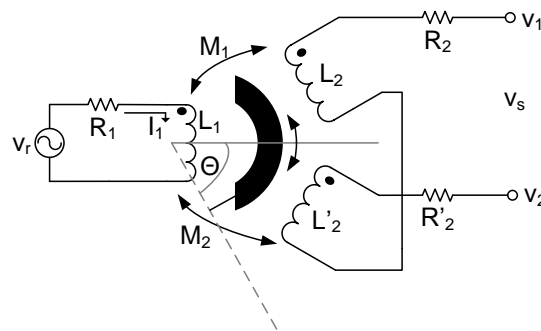
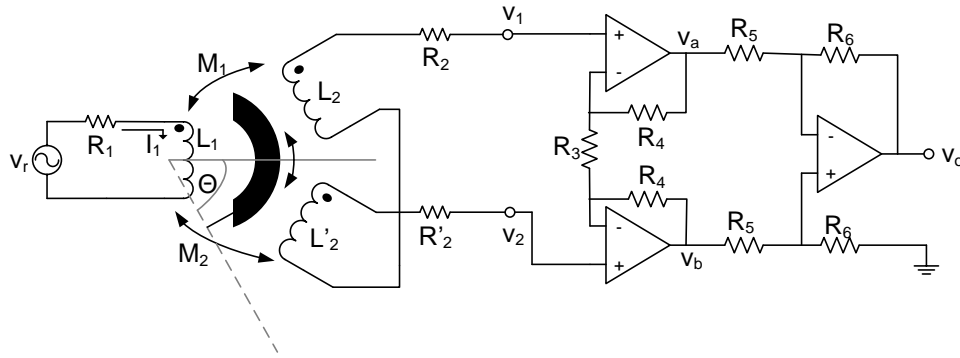

Figure 5: Measuring an angle using an RVDT.
Figure 6: RVDT with instrumentation amplifier.
ESP assists a driver to keep a vehicle on the road during dangerous driving conditions. For this purpose, the ESP system uses a large number of sensors in the vehicle. One of these sensors measures the angle of the steering-wheel and steering-column and the speed with which the driver changes this angle (note that one sensor measures both quantities). The RVDT (rotary variable differential transducer) from Figure 5 can be used to measure the angle (and its rate of change). When the driver moves the steer from the central position ( $\Theta = 0^\circ$ ) to the left or to the right, then this will lead to a change in the output voltage of the sensor. This electrical signal can then be sent to the ESP computer. The primary winding of this RVDT is connected to a voltage supply that produces a sinusoidal voltage with an amplitude of 5V with a frequency of 10 Hz. The RVDT has a sensitivity  $S$  of  $100 \mu\text{V}/(^\circ/\text{V})$ . The output voltage of the RVDT is equal to:
- (5p) (d) The signal coming from the RVDT is too weak to be directly send to the ESP computer. The signal should first be amplified. For this purpose, the sensor from Figure 5 is connected to an instrumentation amplifier. The resulting circuit is shown in Figure 6. The instrumentation amplifier uses three operational amplifiers. You may assume that these op-amps show an ideal behaviour. Show that the output voltage  $v_o$  of the instrumentation amplifier in Figure 6 is equal to:
- (5p) (e) Assume that the resistors  $R_4$ ,  $R_5$ , and  $R_6$  in the instrumentation amplifier from Figure 6 have a resistance of  $10 \Omega$ . What resistance should the resistors  $R_3$  have such that the amplitude of the output voltage  $v_o$  is equal to  $0 \text{ V}$  when  $\Theta = 0^\circ$  and  $5 \text{ V}$  (peak) when  $\Theta = 20^\circ$ ?